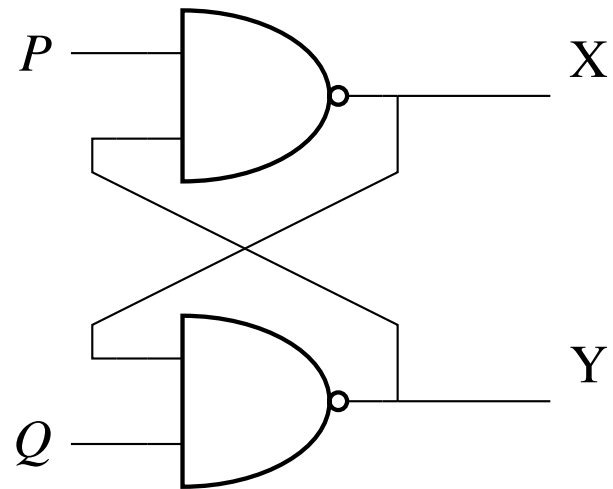

Fig. 3.22
39. In the latch circuit shown in Fig. 3.22, the NAND gates have non-zero but unequal propagation delays. The present input condition is:  $P = Q = '0'$ . If the input condition is changed simultaneously to  $P = Q = '1'$ , the outputs  $X$  and  $Y$  are